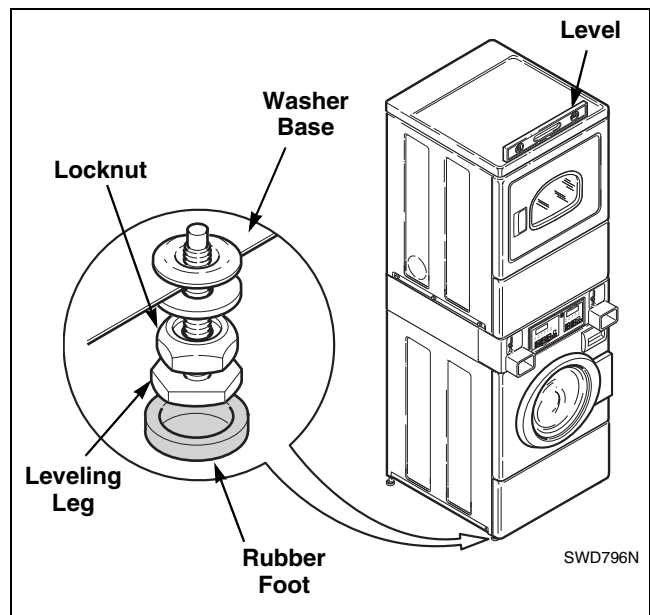

Figure 12
NOTE: Level must be on a raised portion of top panel. Refer to *Figure 12*.
- Loosen locknuts and adjust the leveling legs until the unit is level from side to side and front to back (using a level). Make sure unit **does not rock**. Refer to *Figure 12*.
- Place rubber feet on all four leveling legs. Refer to *Figure 12*.